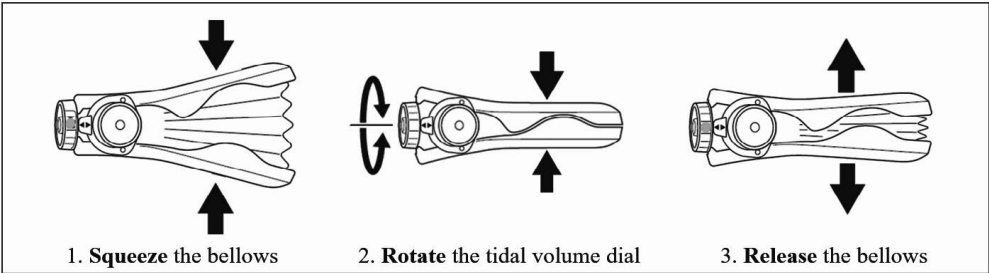

Figure 4: Setting the tidal volume dial.
2. **Squeeze and hold** the side arms compressed. See Figure 4.